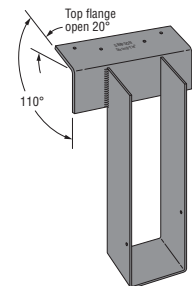

Figure 8 Top flange open.
Open Top Flange (30° max.) (Figure 8) (WP) Open Closed Angle = _____